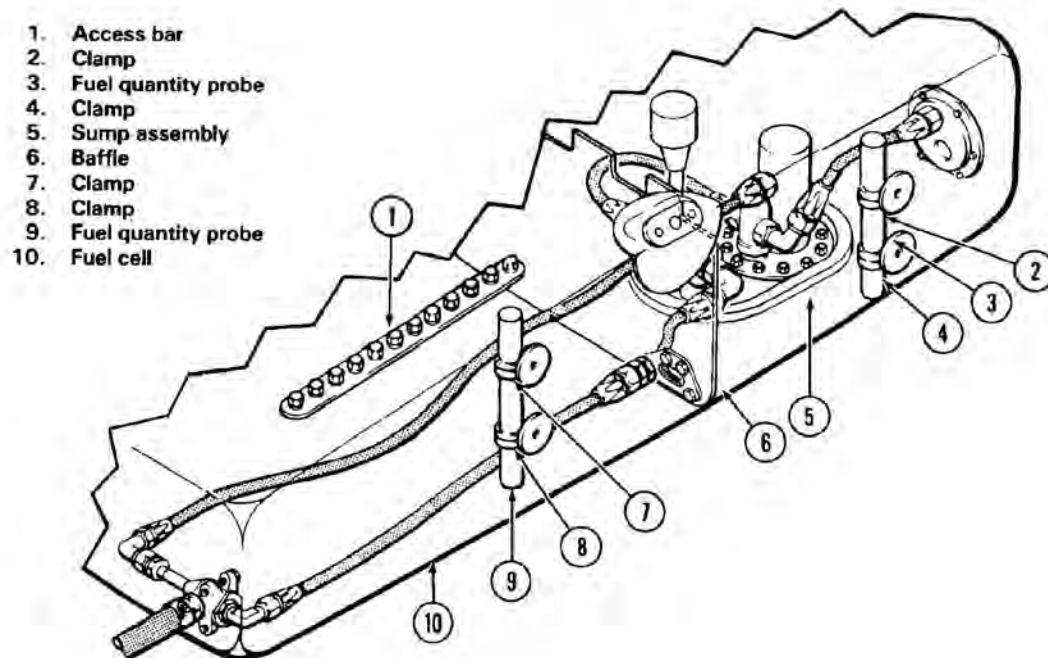

Figure 28-11. Fuel quantity probes — forward fuel cell
28.19.1.3 Remove bolts and remove access bar (1, Figure 28-11) on top of fuel quantity probe (9).
28.19.2.1 Position fuel quantity probe (9, Figure 28-11) in forward section of fuel cell and install clamps (7 and 8) using washers, spacers, and bolts. Torque bolts 15 to 25 in-lbs. (1.69 to 2.82 Nm).